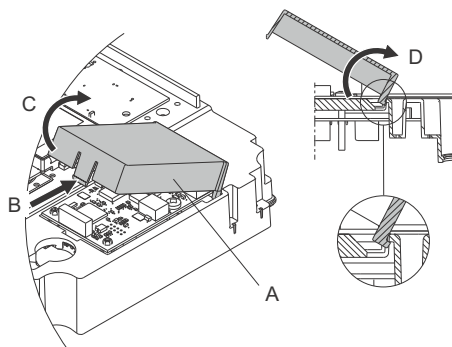

Fig. 46 Removing CIM cover
3. Remove the CIM cover (fig. 46, pos. A) by pressing the locking tab (fig. 46, pos. B) and lifting the end of the cover (fig. 46, pos. C). Then lift the cover off the hooks (fig. 46, pos. D).